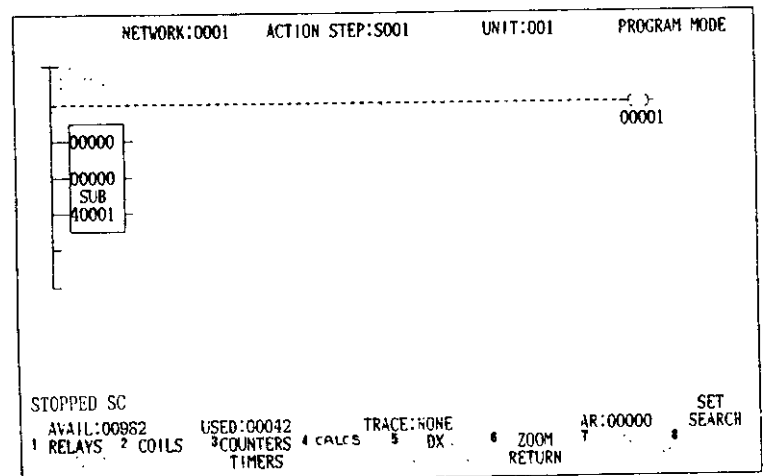

Fig. 5.106
5. To return to the SFC screen from the display of Fig. 5.106 or 5.107, enter S000 at AR and depress ERASE